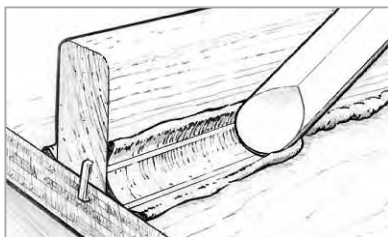

Figure 13 Shape and smooth the fillet with a rounded filleting tool.
2. Shape and smooth the squeezed-out thick epoxy into a fillet by drawing a rounded filleting tool (mixing stick) along the joint, dragging excess material ahead of the tool and leaving a smooth cove-shaped fillet bordered on each side by a clean margin. Some excess filleting material will remain outside of the margin (Figure 13). Use the excess material to refill any voids. Smooth the fillet until you are satisfied with its appearance. A mixing stick will leave a fillet with about a $\frac{3}{8}$ " radius. For larger fillets, an 808 Plastic Spreader, cut to shape or bent to the desired radius, works well. Apply additional thickened epoxy to fill voids or make larger fillets. Apply the mixture along the joint line with the rounded mixing stick, using enough mixture to create the desired size of fillet. For longer or multiple fillets, empty caulking gun cartridges or disposable cake decorating bags can be used. Cut the plastic tip to lay a bead of thickened epoxy large enough for the desired fillet size. Heavy duty, sealable food storage bags with one corner cut off may also be used.